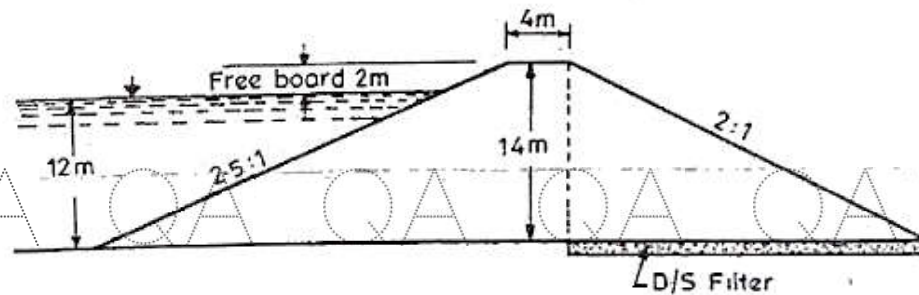

Figure 2
b) A section of a homogeneous earth dam is shown in Figure 2. Calculate the seepage discharge per metre length, through the body of the dam. The coefficient of permeability of the dam material may be taken as  $8 \times 10^{-5} \text{ m/sec}$ . [5+5]